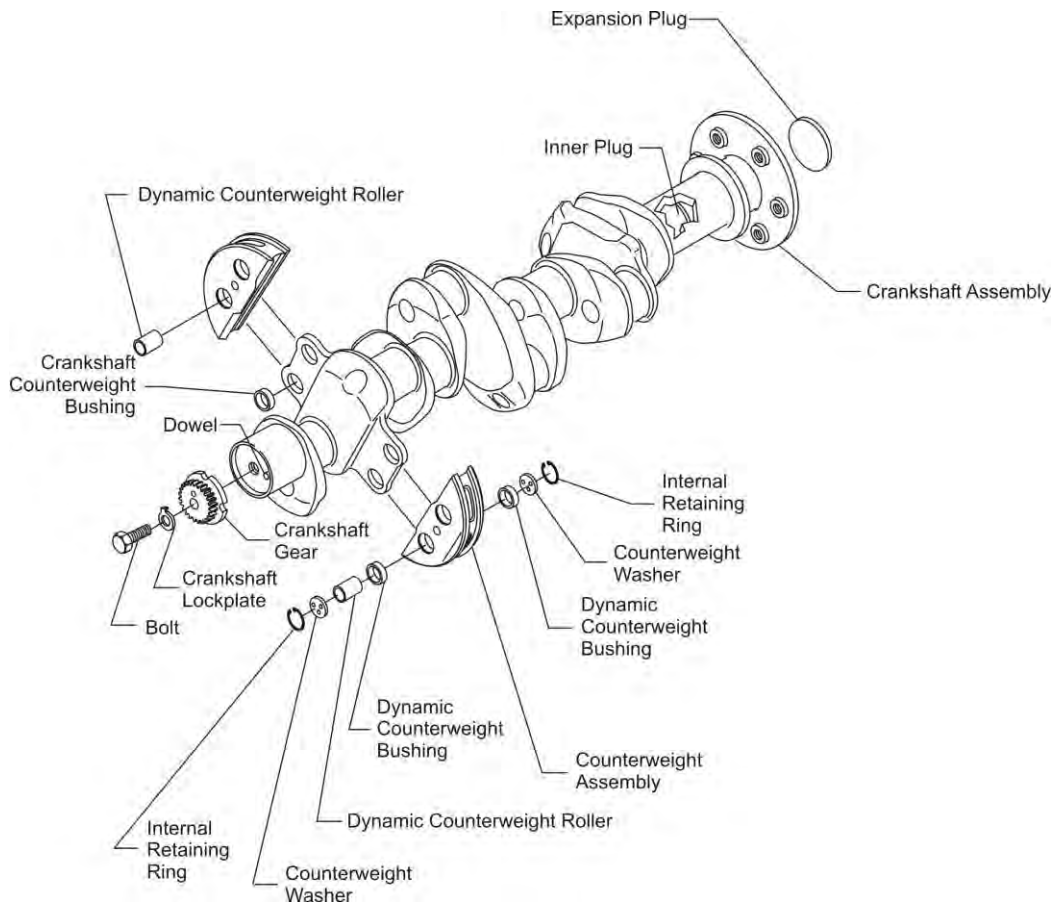

Figure 21
C. If installed, remove the larger expansion plug and inner plug (Figure 21) from the crankshaft by punching a 1/8 in. (3.175 mm) to 3/16 in. (4.763 mm) hole in the center of the plug. Use a hook or bent rod to pull out the plug. Remove any little pieces of plug remnants. Discard the expansion plug and inner plug.